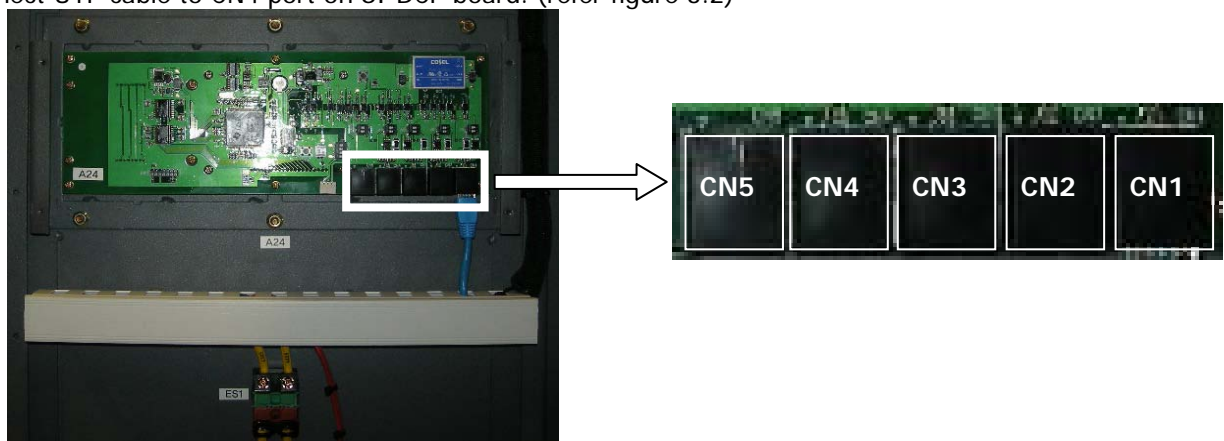

Figure 3.2 Communication Ports
- 2. Connect UTP cable to CN4 port on SI-DCP board. (refer figure 3.2)